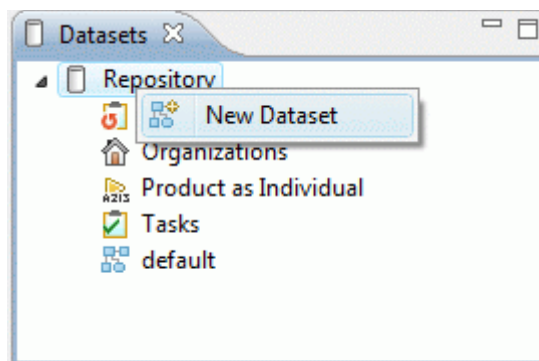

Figure 1. Context sensitive menu, New Dataset menu item
- Right click on the  root node in the window. The context sensitive menu appears (see Figure 1).